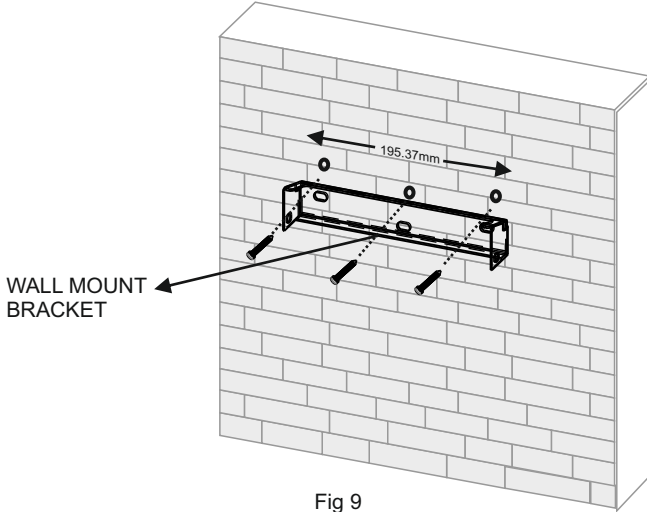

Fig 9
Step1 : Drill three holes on wall at distance of inverter mounting position as shown in fig.9 & insert self tapping screw in holes.